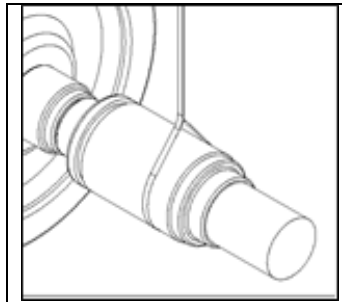

Figure 19 – Guide Tube Installation
- 5.3.4 Slip the bearing assembly on the Guide Tube. The seal wear ring should be held in place to prevent it from riding out of the enclosure seal when the cardboard tube is ejected. A small lift is recommended for handling the large bearing assembly sizes (Figure 19).